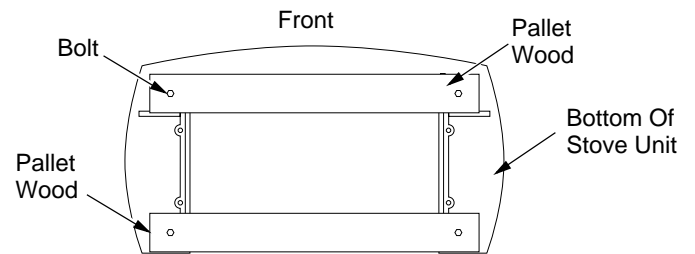

Figure 8 - Removing Pallet Wood from the Bottom of the Stove
7. Remove remaining pallet wood attached to bottom of stove body (see Figure 8). Use an adjustable wrench to remove bolts.